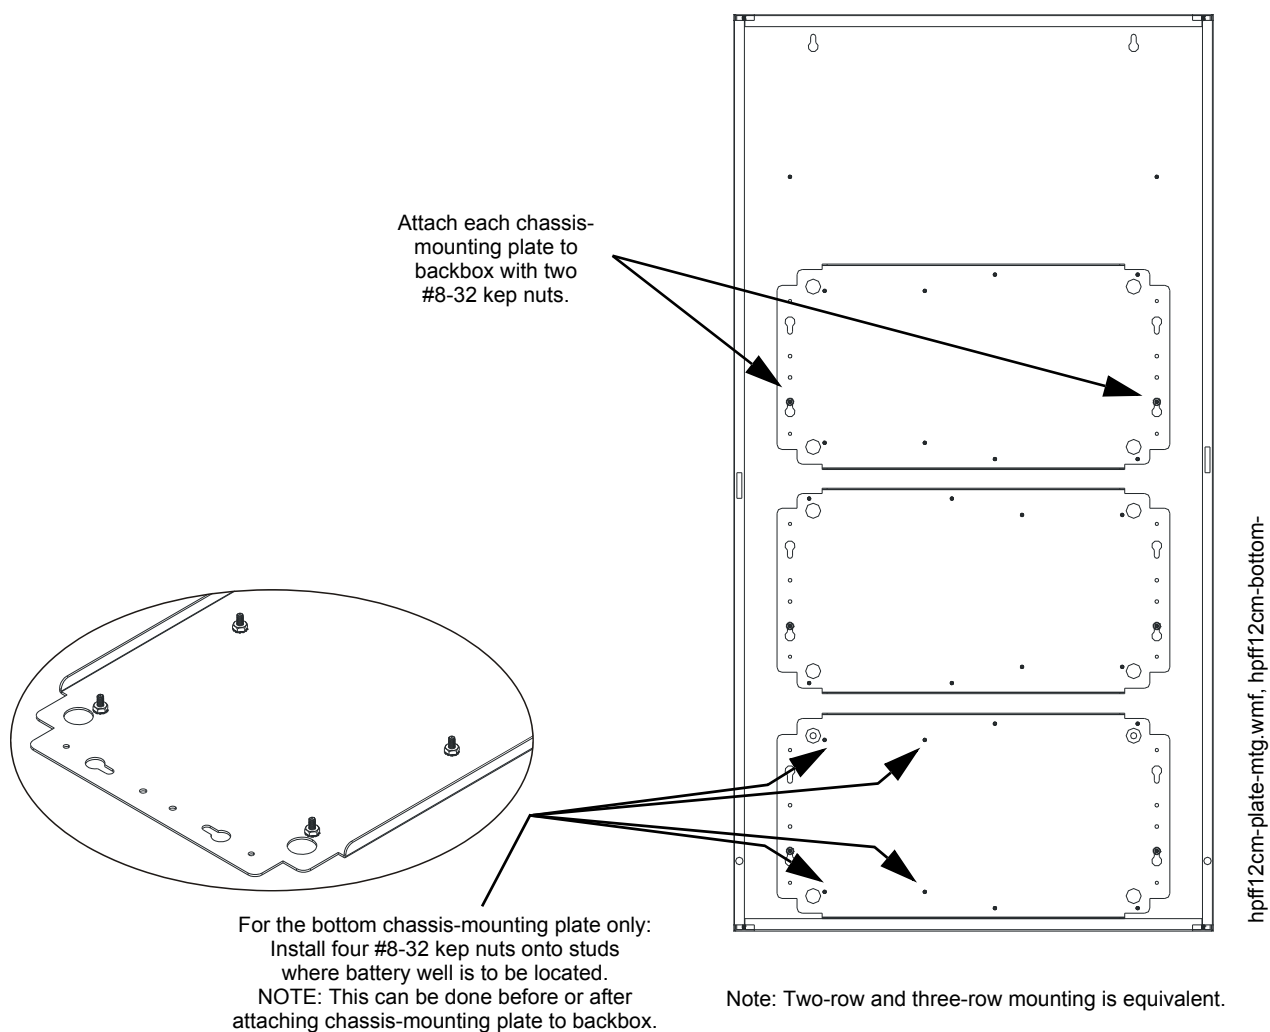

Figure 2.6 Installing Chassis-Mounting Plates onto Backbox (EQBB-D4 Shown)
2. Attach mounting plates as shown in Figure 2.6.
3. For the bottom-most chassis-mounting plate only, install four #8-32 keps nuts on the plate’s studs as shown in Figure 2.6. This will properly space the battery well away from the backbox’s mounting hardware.